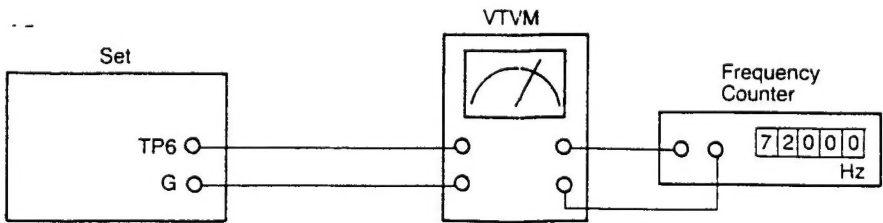

Figure 8
- Connect frequency counter to VTVM OUTPUT, connect VTVM to TP6 and Ground. (See Figure 8.)